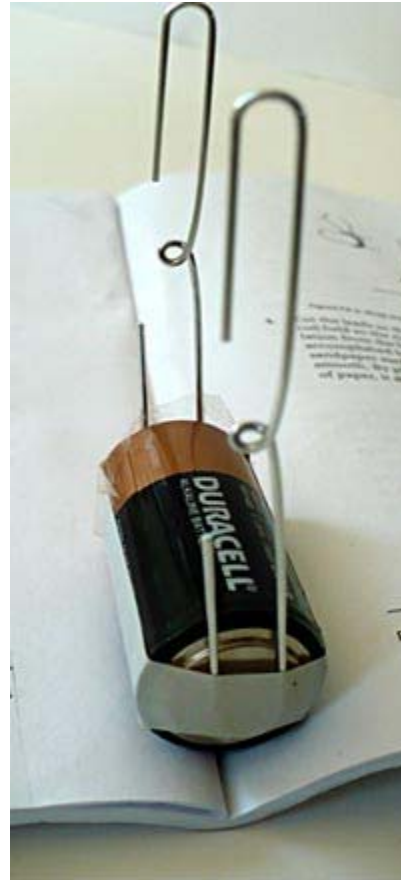

Figure 16. An opened booklet balances the support of the motor well.
4. Your finished support system can be balanced in the fold of an opened book (such as the booklet that came with your Science Buddies kit), as shown in Figure 16, below.